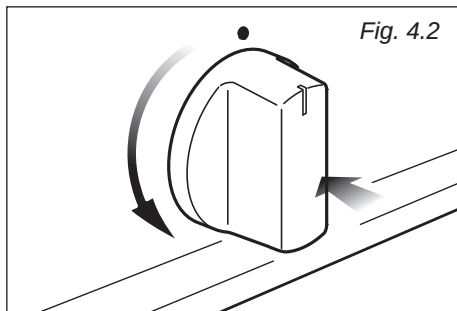

Fig. 4.2
2. Lightly press and turn the thermostat knob anti-clockwise (fig. 4.2) to maximum position **Max**★ (fig. 4.1). Press the knob firmly until the burner lights.